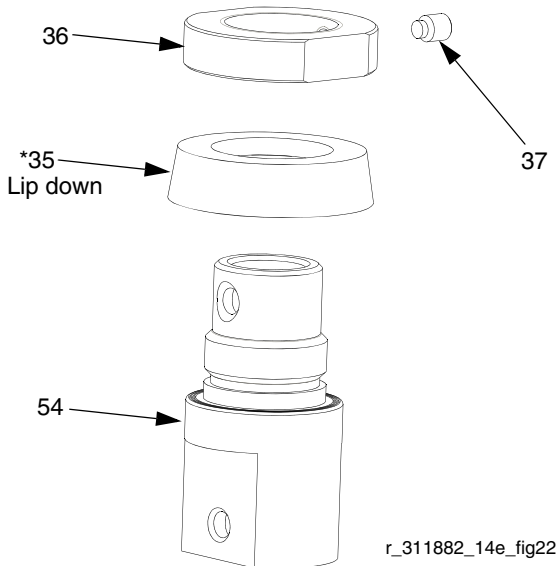

FIG. 21
10. Loosen set screw (37) from collar (36). Remove collar from piston housing (54). Remove u-cup (35\*). Inspect all parts for damage. See FIG. 21.